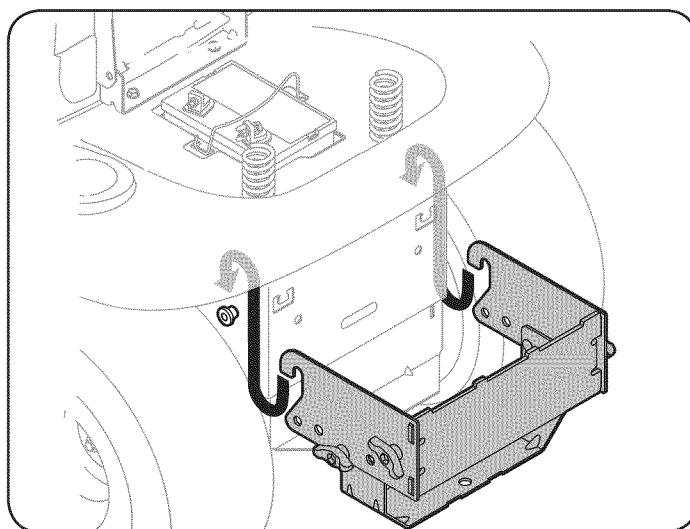

Figure 3
1. Place the hooked ends of the mounting assembly over the shoulder bolts, as in Figure 3, on the tractor and line up the hitch support bracket center hole with the hole on the tractor's hitch.